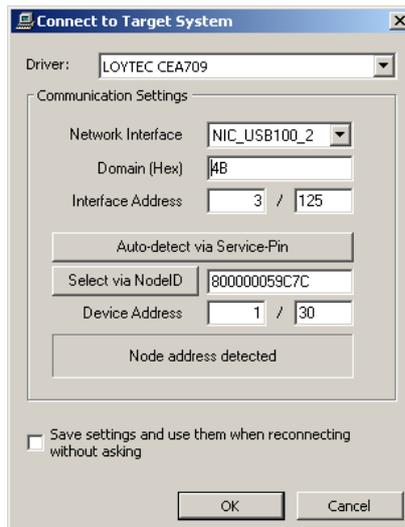

Figure 33: Connect via CEA-709
- **CEA-709:** Select the network interface to use and fill out all other fields, see Figure 33. Alternatively, select the network interface and press Auto-detect via Service-Pin. Then press the service pin on the device. Note that this connection method requires an installed LOYTEC network interface.